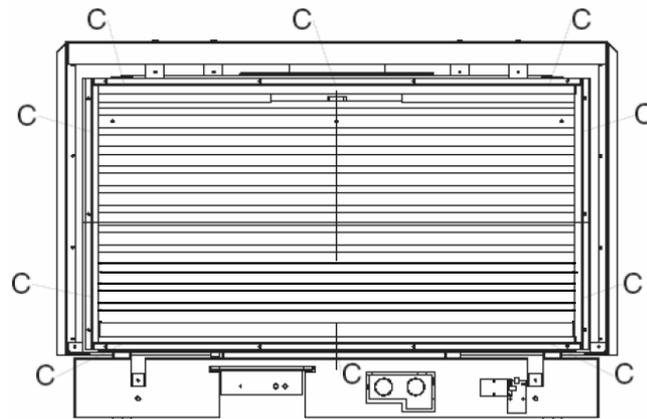

Fig. 8
- 4) Remove the glass by removing the glass clamps C (see fig. 8) for instance with a screwdriver. Careful when removing the glass! Wear gloves! Before placing the glass back, be sure that there are no